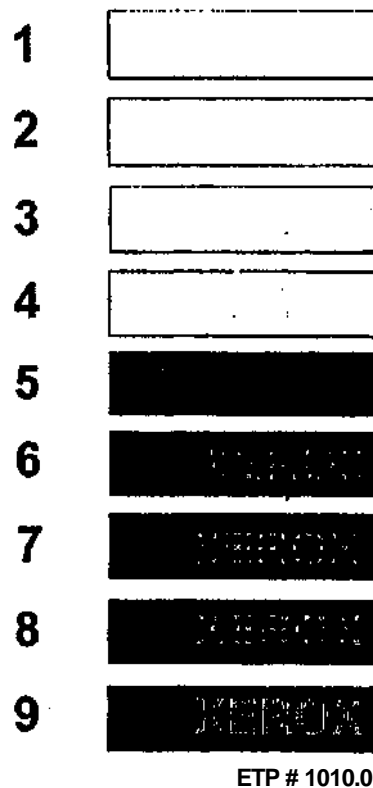

Figure 1 Image Quality Specification
5. (Figure 1): Check the Image Quality.